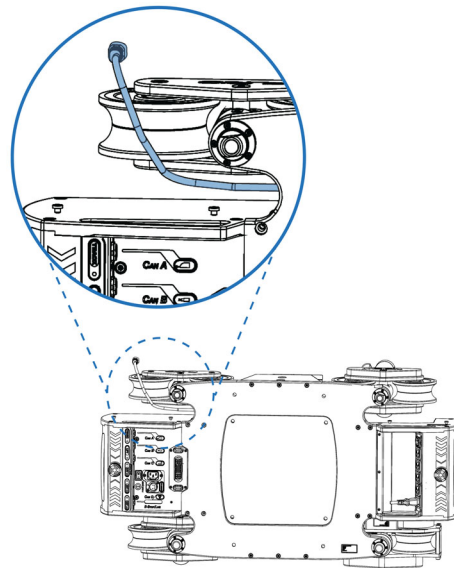

Figure 19 - BPS CAN Cable Connection to FRU
3. Feed the BPS CAN cable through the space between the passive wheel and the FRU opposite the drive wheel. Refer to **Figure 19**.